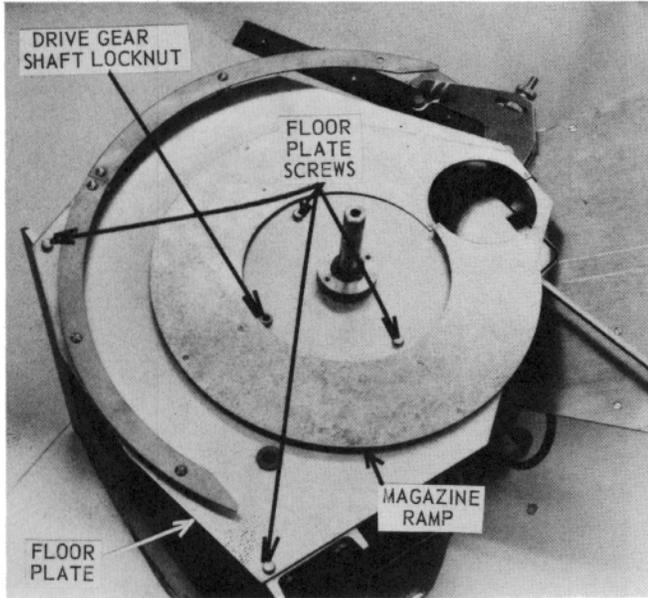
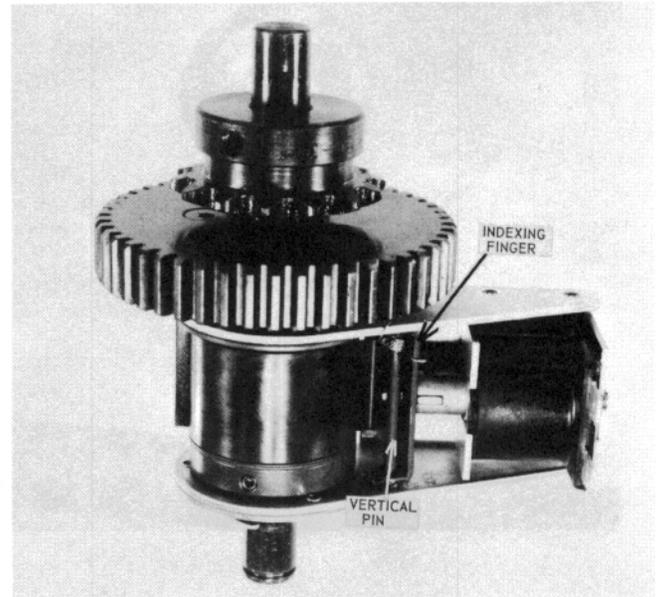
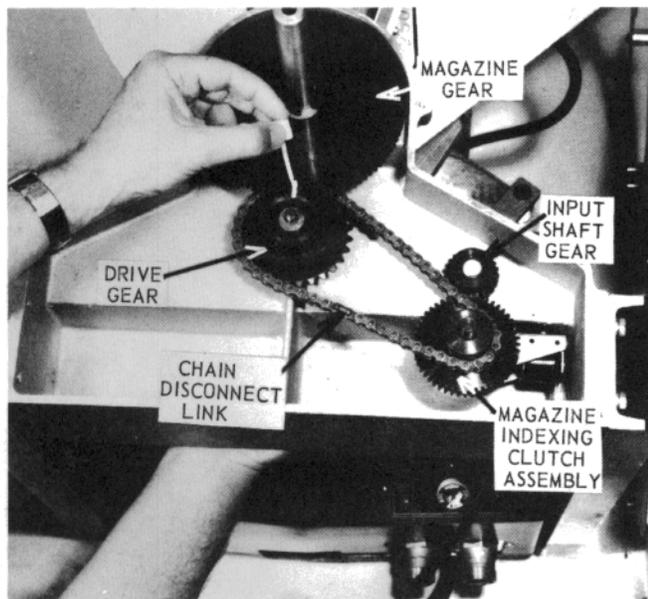

Figure 86 – Magazine Ramp, Floor Plate, Floor Plate Screws, and Magazine Drive Gear
Figure 88 – Magazine Indexing Clutch Assembly
Figure 87 – Match Marking Magazine Gear and Magazine Drive Gear
7.1.3 Remove the four floor plate screws holding the magazine floor plate to the magazine gearbox (see Figure 86). The magazine drive gear shaft lock nut must be removed: however, the magazine drive gear shaft, which is held by this nut, must be held from below when the floor plate is removed to prevent the magazine drive gear from moving (see Figure 87). If the magazine drive gear moves without first being match marked with the magazine gear, incorrect timing will result.
7.1.4 Match mark the magazine gear with the magazine drive gear (see Figure 87).
7.1.6 The chain disconnect link is positioned for unsnapping by disengaging the magazine indexing clutch to allow free movement of the chain (see Figure 87). The magazine indexing clutch is disengaged by pressing on the end of the metal indexing finger and rotating it slightly on the vertical pin (see Figure 88). The chain may also be removed by removing the magazine drive gear and not disconnecting the chain link.